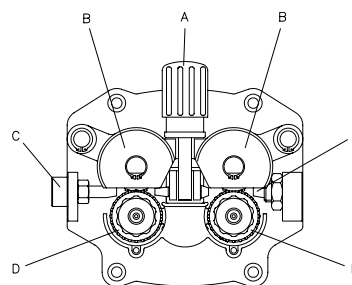

FIG. 9
- Loosen and lower the plastic knob (A) (Fig.9). Open the pressure arm (B) of the feeder. Extract the wire from the torch liner (E).
- When the wire is disconnected, grasp it with pliers so that it cannot exit from the spool. If necessary, straighten it before inserting it in the wire input guide (C). Insert the wire on the lower roll (D) and in the torch liner (E).
- Open the side panel. Loosen and lower the plastic knob (A) and release the pressure arm (B) (Fig. 9). Cut the wire (in the case it is installed) grasp it with pliers so that it cannot exit from the spool and fix it on the suitable hole in the reel. Remove the nozzle and contact tip. Remove with pliers the wire from the hose and torch assembly.